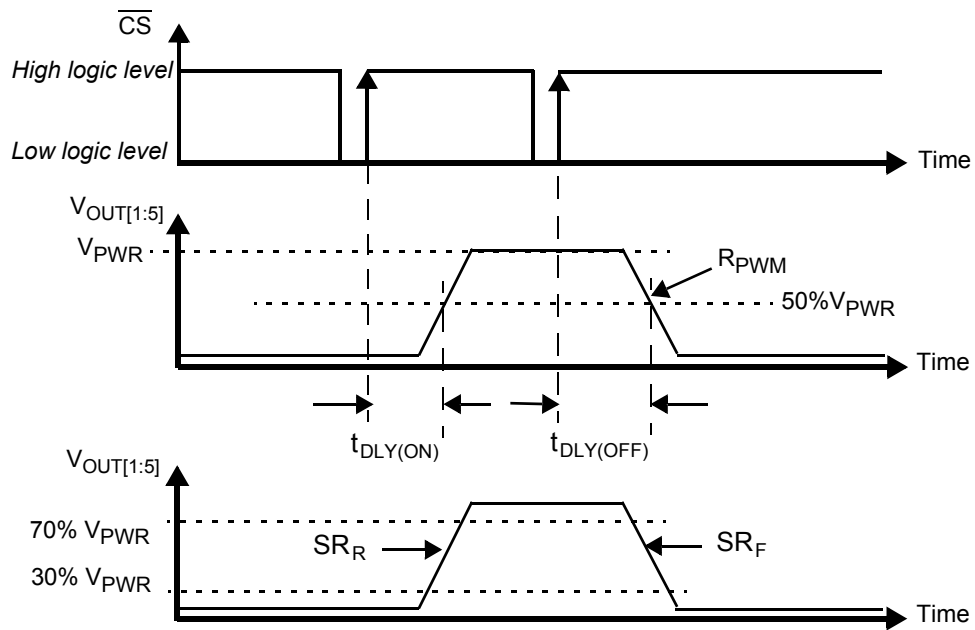

Figure 6. Output Slew Rate and Time Delays
41. The PWM ratio is measured at $V_{OUT} = 50\%$ of V_{BAT} in nominal range of PWM frequency. It is possible to put the device fully on (PWM duty cycle = 100%) and fully off (PWM duty cycle = 0%). Between 4%-96%, OCHI_{1,2}, OCLO and open load are available in ON state. See Figure 6. Output Slew Rate and Time Delays.